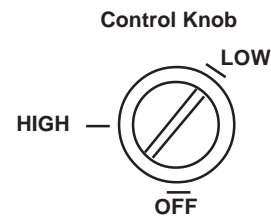

Figure 16
3. Push in gas control knob and slightly turn clockwise to the OFF position (see figure 16).